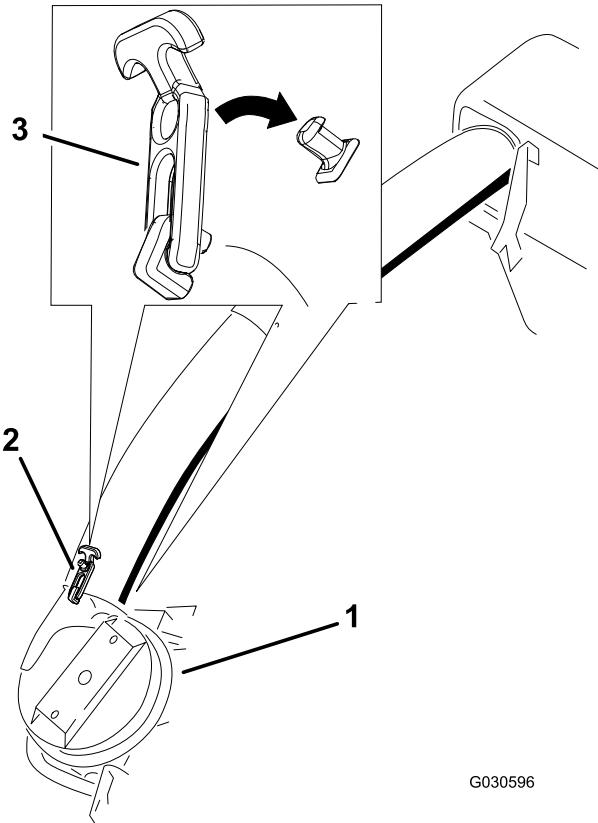
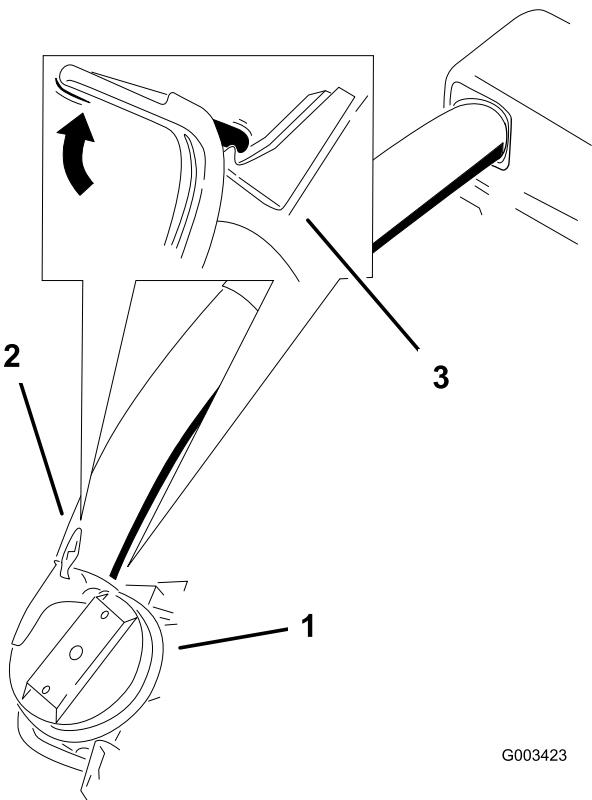

Figure 25
Figure 26
8. Slide the lower tube onto the boot and latch them together (Figure 25 or Figure 26).